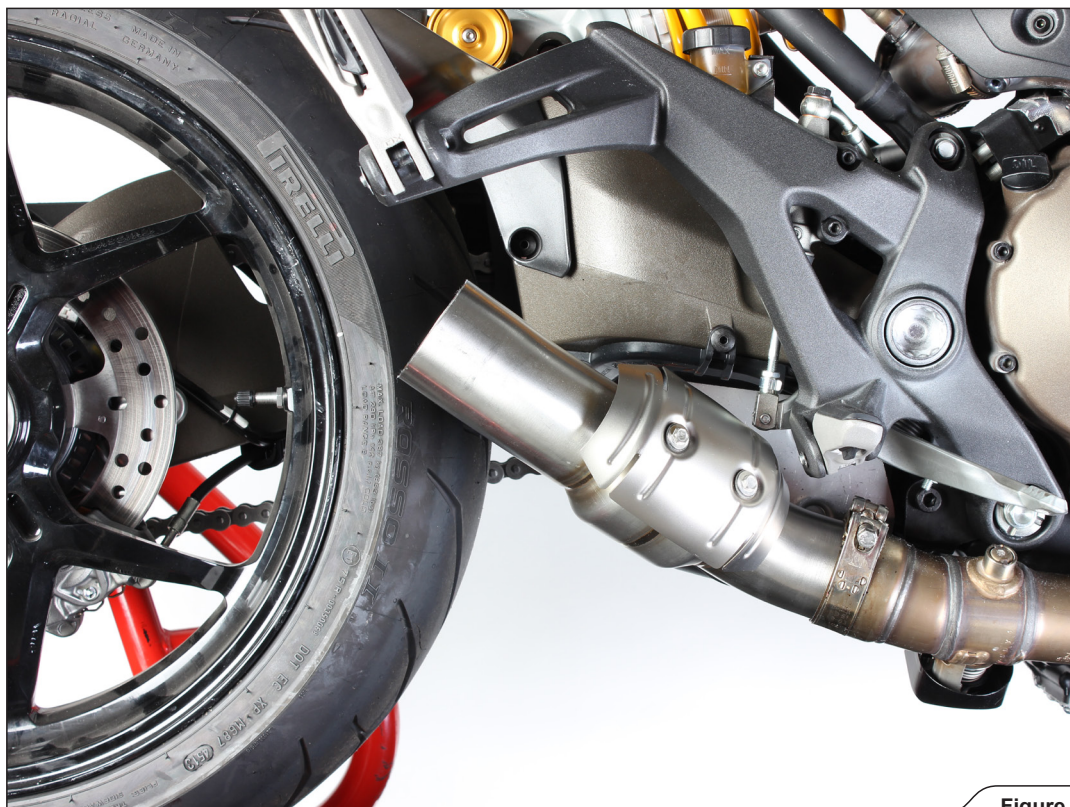

Figure 5
2. Insert the link pipe into the outlet side of the stock collector (**Figure 5**).